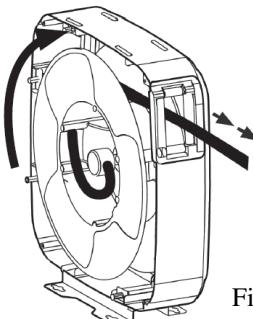

Fig. 15
- Disassemble one side of the hose reel and pull the hose out and let the hose get latched (Fig. 15).